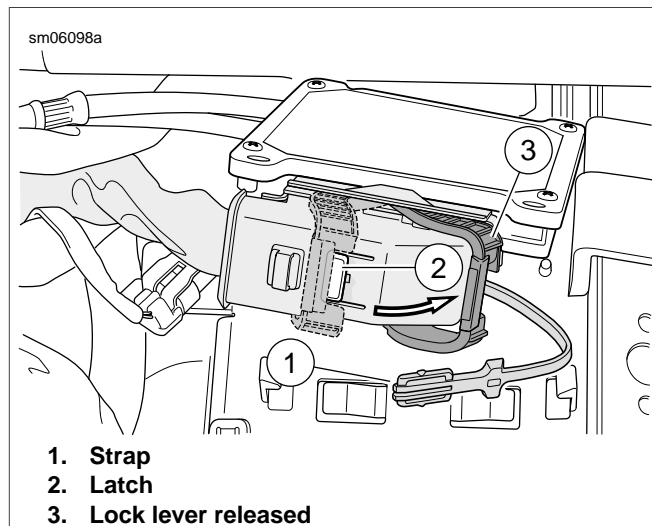

Figure A-25. Unlatch ECM Connector
See Figure A-25. Remove strap (1). Press the latch (2). Rotate lock lever to the released position (3).